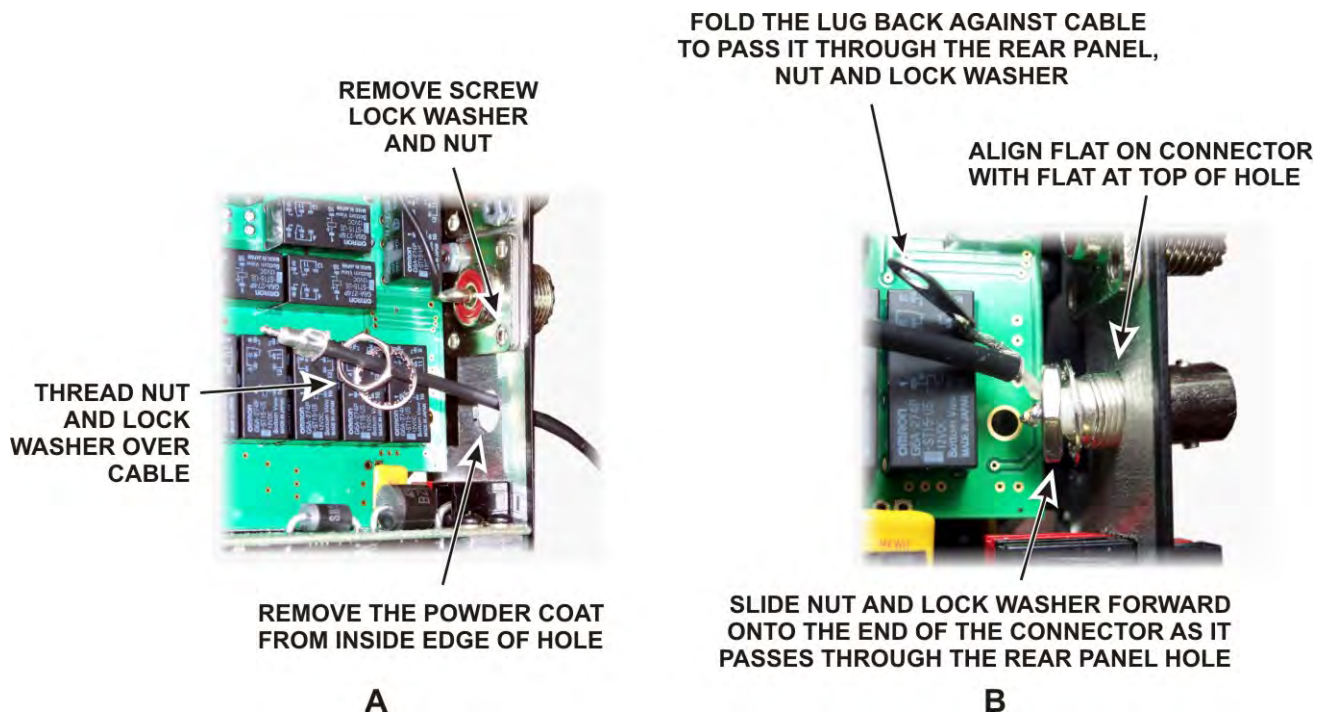

Figure 33. Installing AUX RF Connector, Part 1.
- The dense, highly scratch-resistant powder coating on the rear panel may interfere with the fit of the BNC connector through the hole. Remove the coating around the inside edge of hole using a hobby knife or other sharp tool (see Figure 33).